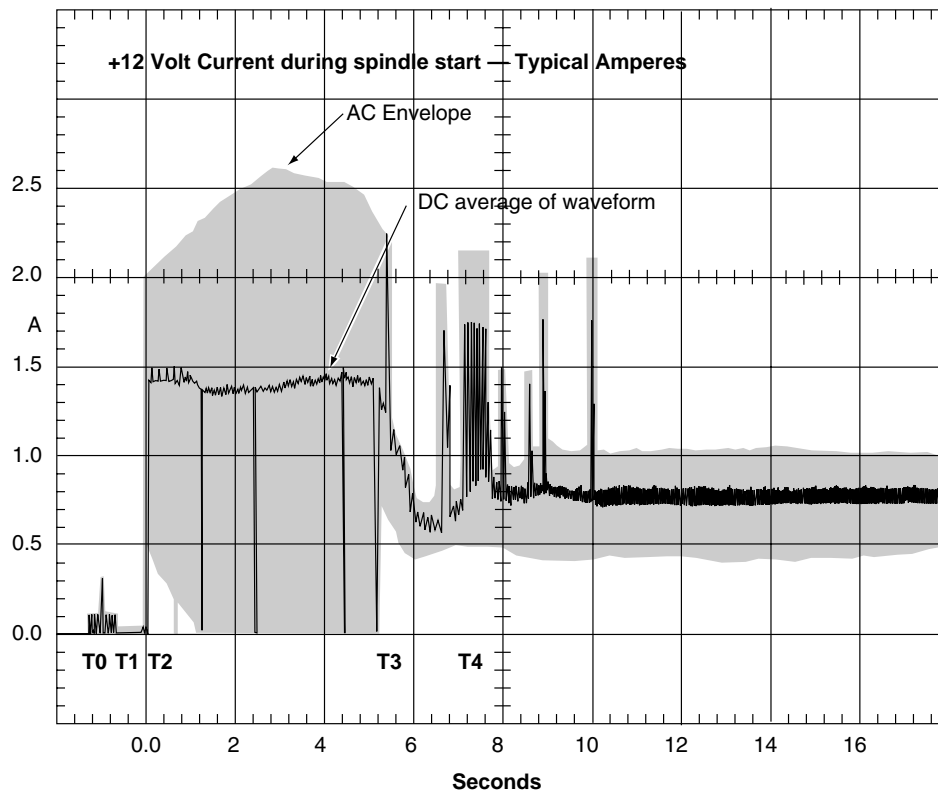

Figure 2. Typical ST336752 and ST336732 drive +12 V current profile
- [3] See +12 V current profile in Figure 2.
Figure 2 identifies the drive +12 V current profile. The current during the various times is as shown: